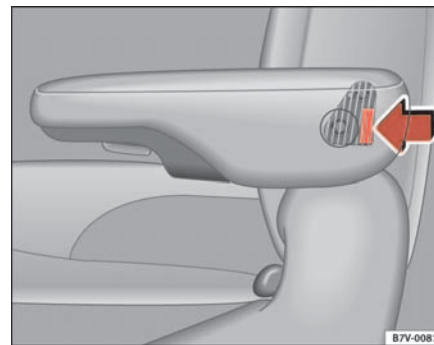

Fig. 95 Removable armrest: button
- Take hold of the armrest at the rear and press the button ⇒ page 130, fig. 95 in the direction of the arrow.